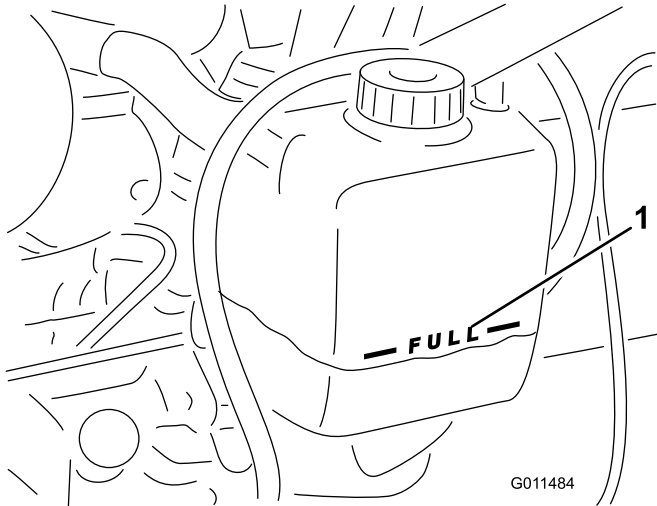

Figure 10
1. Carefully remove the radiator cap and expansion tank cap (Figure 10).